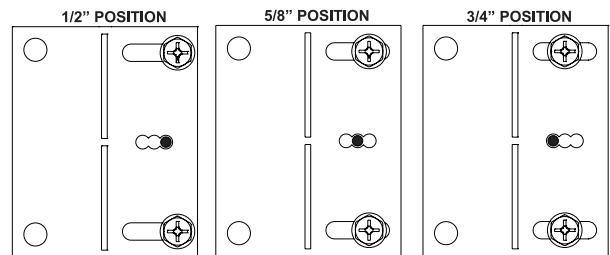

Figure 15
5. Measure from face of fireplace to face of drywall strip to determine final depth and adjust nailing flanges as shown in **Figure 15.**